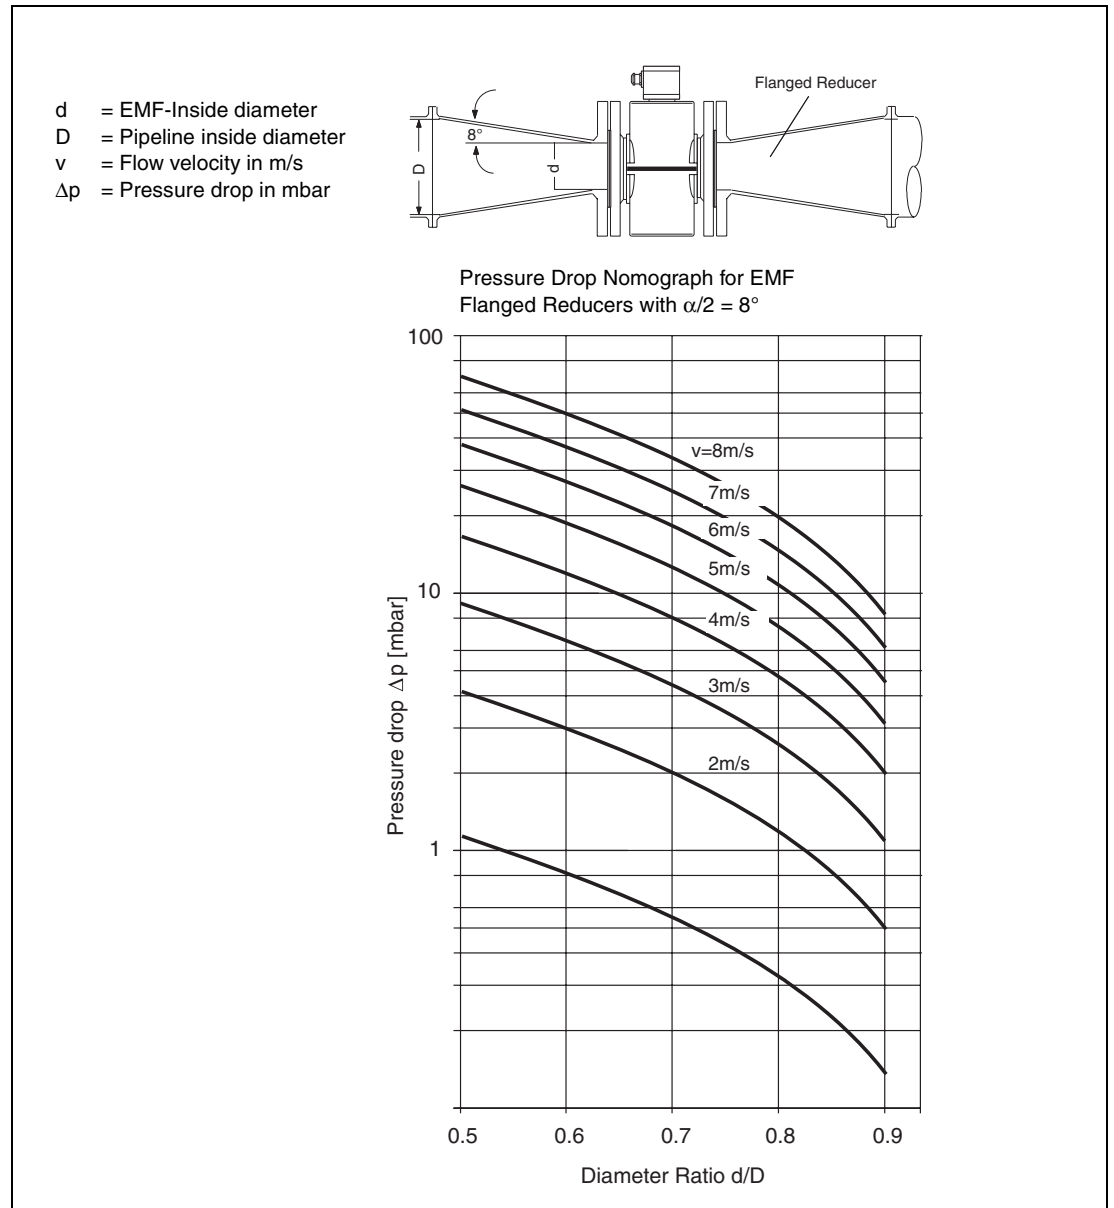

Fig. 11: Nomograph for Calculating the Pressure Drop for EMF Flowmeters - Flanged Reducers with $\alpha/2 = 8^\circ$
The flowmeter can readily be installed in larger size pipelines by utilizing of flanged transition sections (e.g. Flanged Reducers per DIN 28545). The pressure drop resulting from the reduction can be determined from the Pressure Drop Nomograph Fig. 11 using the following procedure:
3. The pressure drop can be read on the -Y- axis at the intersection of the flow velocity value and the "Diameter Ratio d/D " value on -X- axis in Fig. 11.